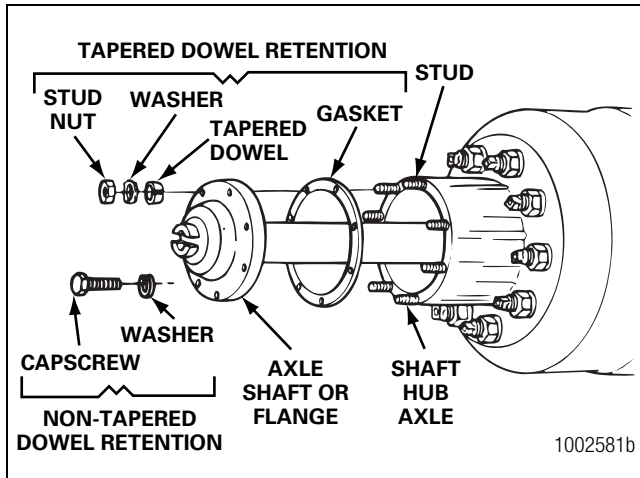

Figure 11.9
6. Remove the stud nuts or capscrews and washers from the flange of the axle shaft. Figure 11.9.
7. Loosen the tapered dowels, if used, in the flange of the axle shaft. Figure 11.9.
9. Remove the tapered dowels, gasket, if used, and the axle shaft from the axle assembly. Figure 11.9.
5. Install the gasket, if used, and axle shaft into the axle housing and carrier in the same location. The gasket and flange of the axle shaft must be flat against the hub. Rotate the axle shaft or the driveline as necessary to align the splines and the holes in the flange with the studs in the hub. Figure 11.9.